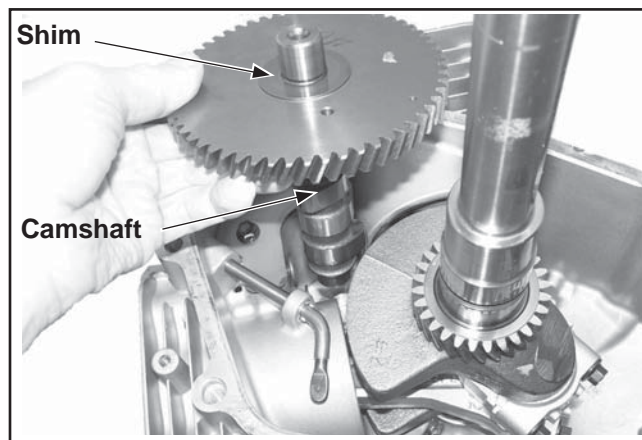

Figure 8-45. Removing Camshaft.
1. Position the crankcase so the flywheel side is down. Remove the camshaft and shim. See Figure 8-45.